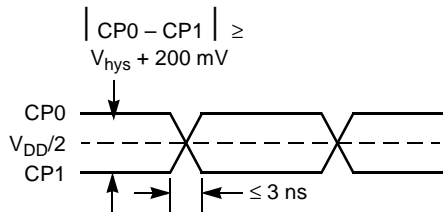

Figure 1. Receiver Input Waveform
- Receiver input,  $V_D = V_{CP0} - V_{CP1}$ , at least 200 mV greater than hysteresis levels. See Figure 1.